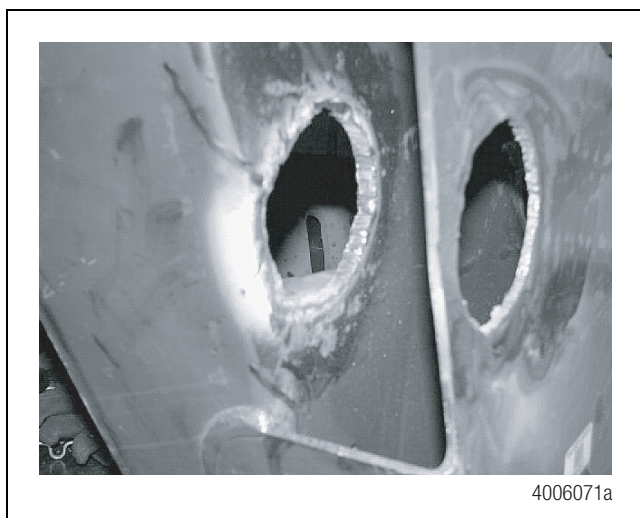

Figure 2
9. Use a suitable tool to cut on the marks made earlier around the alignment washers. Cut the holes at least 3.25-inches (89 mm) in diameter. Remove all slag and sharp edges from the inside and outside side plates. Figure 2.